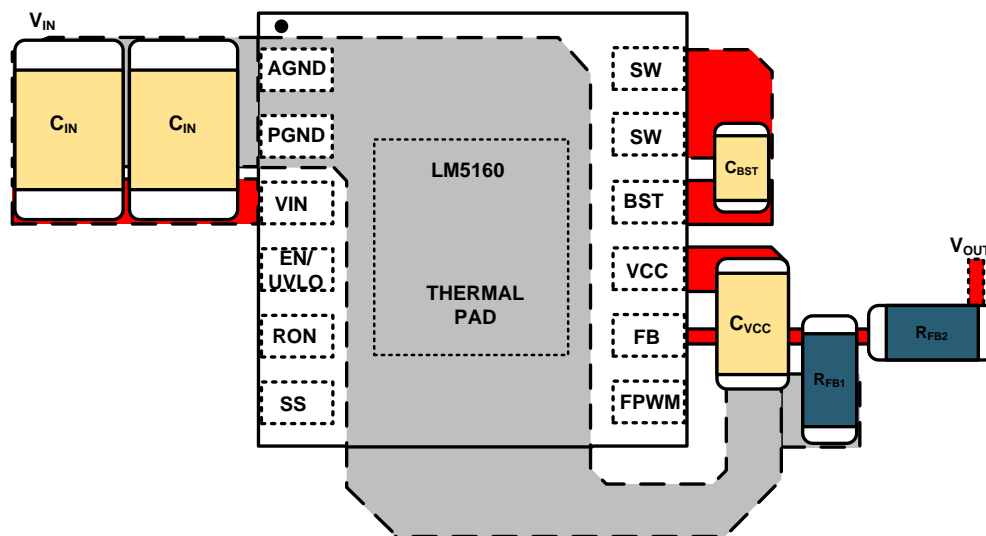

Figure 36. Placement of Bypass Capacitors
- $C_{IN}$ : The loop consisting of input capacitor ( $C_{IN}$ ), VIN pin and PGND pin carries the switching current. The input capacitor must be placed close to the IC, directly across VIN and PGND pins, and the connections to these two pins must be direct to minimize the switching power loop area. In general, it is not possible to place all of input capacitances near the IC. A good layout practice includes placing the bulk capacitor(s) as close as possible to the VIN pin (see Figure 36).
- $C_{VCC}$  and  $C_{BST}$ : The VCC and bootstrap (BST) bypass capacitors supply switching currents to the high-side and low-side gate drivers. These two capacitors must also be placed as close to the IC as possible, and the connecting trace length and loop area must be minimized (see Figure 36).